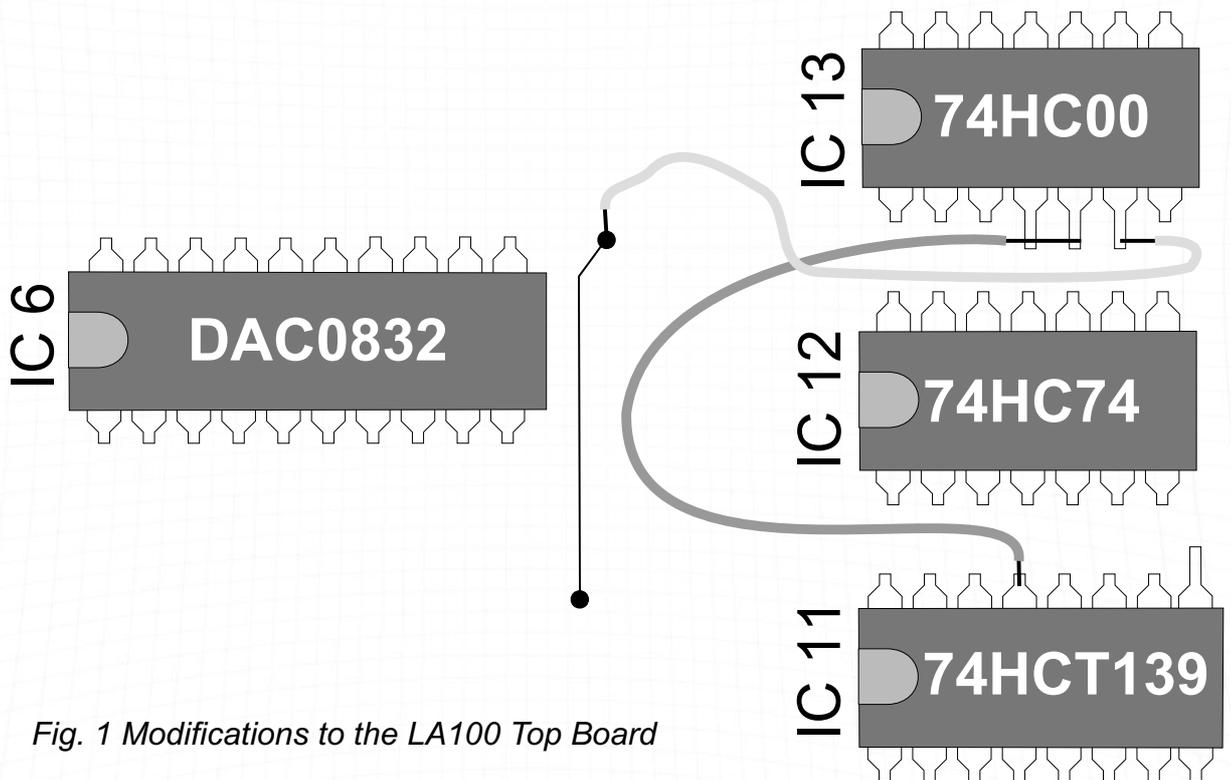

Fig. 1 Modifications to the LA100 Top Board
1. Remove IC11 (74HCT139) from its socket. Bend pin 9 out through 90° and replace the IC its socket ensuring that pin 9 does not make contact with the socket. Strip the ends from a short (~5cm) piece of insulated wire and solder one end to the TOP of pin 13 of this IC (note that pin 13 is NOT bent out, and still connects with the socket). See Fig. 1 below.
4. With the board orientated so that the blue mains transformer is at the top right, locate IC6 (DAC0832 in the LA102, generally an empty IC socket in the LA101), and to the right of the top row of pins you should see an isolated narrow vertical track 19mm long connecting two “plated through holes”. Solder the wire from pin 6 of IC13 to this track at the top hole (to the left and slightly below R1). The board should now look like fig. 1.